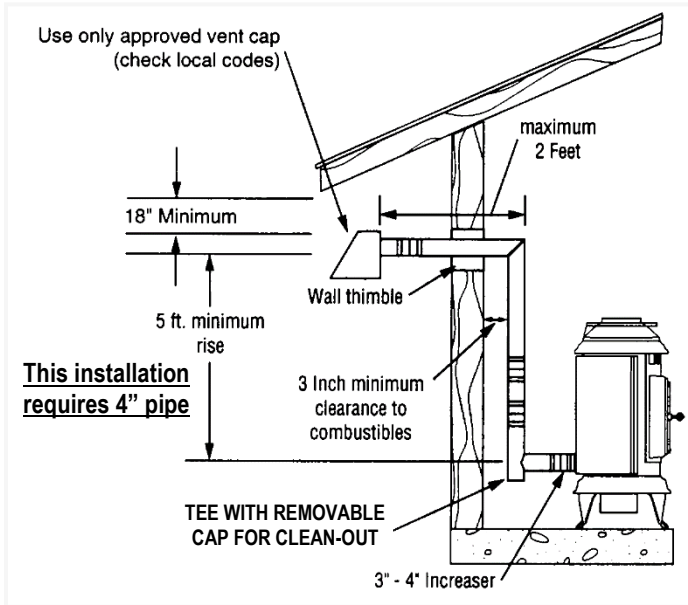

FIGURE 9
- c. Installation per Figure 9 requires 4" pellet pipe.